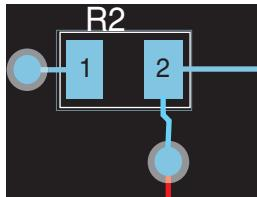

Figure 9-146 Corrected pad exit.
**To fix a bad pad exit error** use the manual **Add/Edit Route Mode** tool, select the trace using **Ctrl** + left click, then right click, and select **Unroute Segment** to unroute the trace from the center of the pad up to the via (make sure to get all of the segments). Manually reroute the trace starting at R2.2. Click on the net near R2.2 to start routing. Run the trace straight down, leaving the pad at its center (and perpendicular). Click the mouse just past the R2's silk-screen outline to place a vertex. Right click and select **Finish**. This will force the jog to be placed outside of the pad as shown in Fig. 9-146.